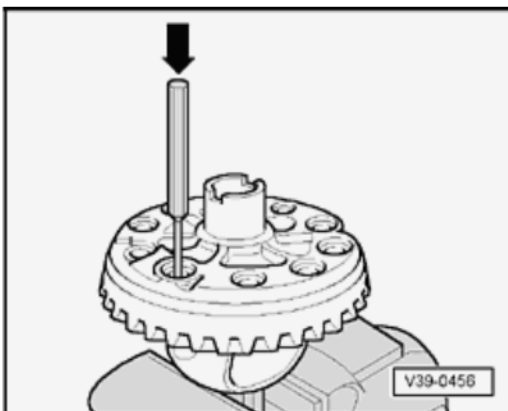

Fig. 84: Driving Out Ring Gear From Housing
- Drive off housing with a drift. See Fig. 84